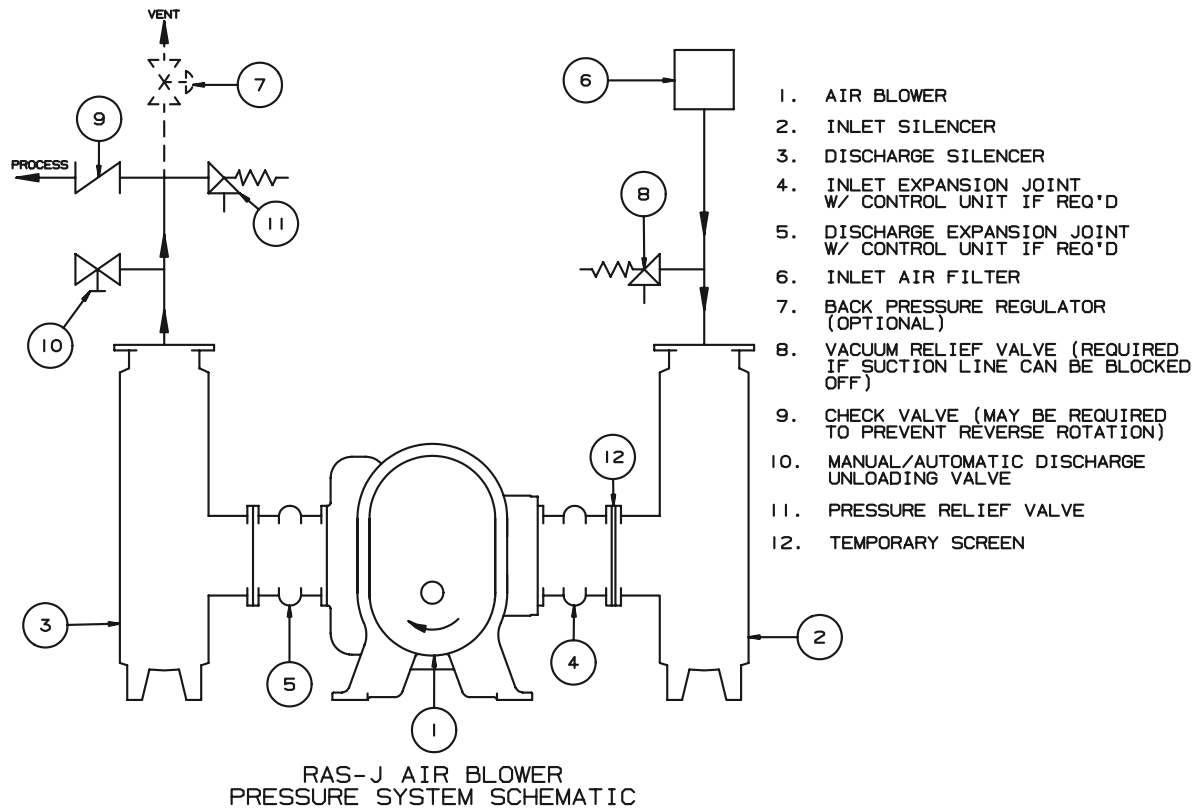

Figure 6 – RAS-J Installation with Accessories
Discharge piping requires a pressure relief valve, and should also include a suitable pressure gauge and unloading valve. The latter permits starting under no-load conditions. The optional back pressure regulator shown in Figure 6 will be required if volume demands vary while blower operates at constant speed. It may blow off to atmosphere if only air is being handled. In a gas installation the regulator will probably need to be located in a by-pass loop back to the blower inlet. However, the volume of gas that may be continuously circulated will be limited by **heat build-up**, which can cause blower damage. Refer such application problems to the nearest Sales Office for recommendations on installation of a by-pass cooler.
8. If unit is a **gas blower**: Vent the discharge line by opening the initial starting blow-off valve, while keeping the normal starting by-pass valve closed. See Figure 6. Inlet piping should be open to atmosphere (not connected to gas supply) during start-up and unit has been tested.